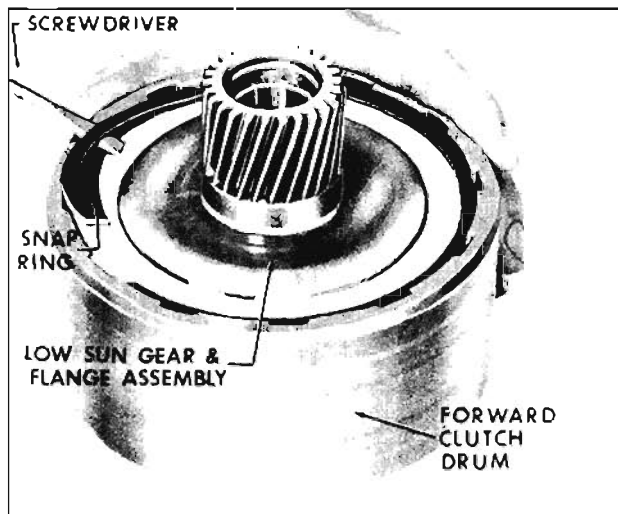

Fig. 6-346 Removing Snap Ring
1. Remove low sun gear and flange assembly retainer snap ring. (Fig. 6-346)